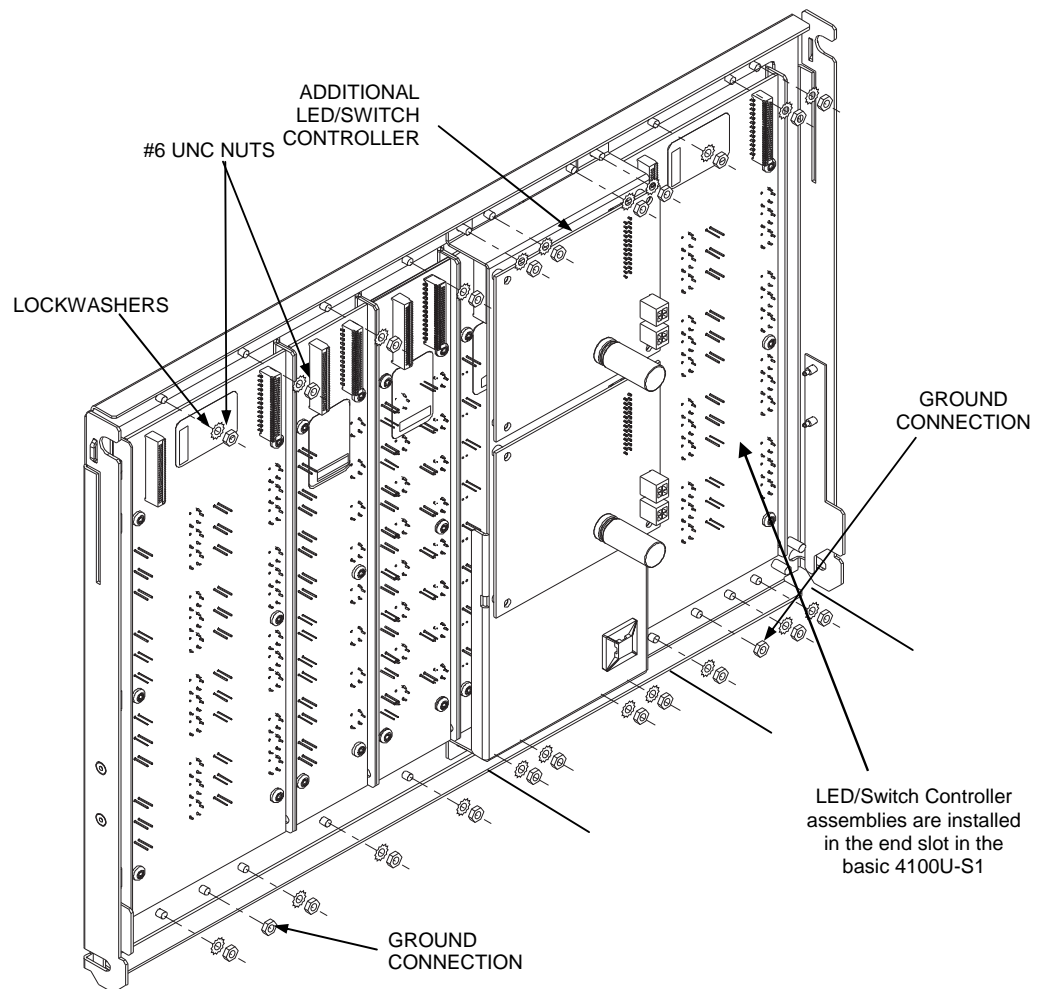

Figure 2-13. LED/Switch Card Mounting
Refer to Figure 2-13 to mount the display cards to the front of the expansion bay.
1. Use four 322-123 nuts and four 268-009 bay washers to secure the 637-141 bracket to the inside front of the expansion bay. Note that there is only one location where the bracket can be mounted, as shown in Figure 2-13.